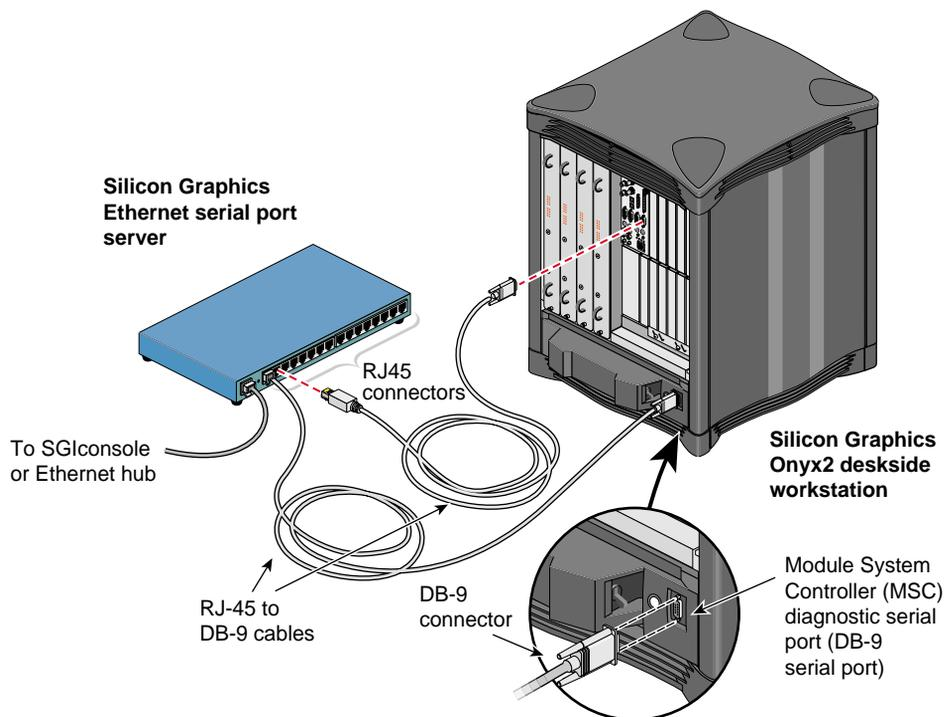

Figure 5-30 Connecting the MSC Serial Port Connector to the Serial Port Server
7. Connect the RJ-45 end of the second RJ-45 to DB-9 cable to one of the RJ-45 serial jacks on the Silicon Graphics EL-16 serial port server. Connect the DB-9 connector to the DB-9 jack on the Silicon Graphics Onyx2 deskside workstation Module System Controller (MSC) diagnostic serial port. See Figure 5-30.